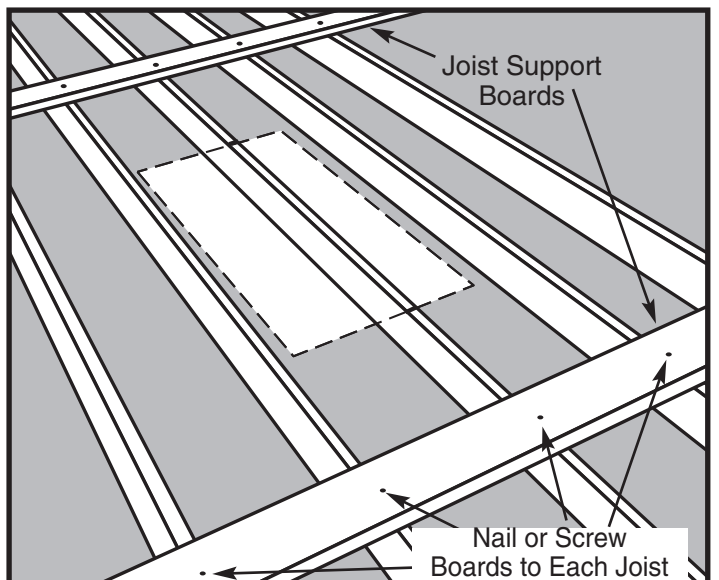

Figure 9
Step 2. Cut (2) joist-sized boards long enough to span (2) joists on each side of your chosen location (See Figure 9). These boards will support the joists that will be cut and help keep the ceiling from sagging or completely collapsing while you are working in the overhead space.
Step 3. Place these boards approximately 0.61 m from the edge of your chosen location and nail (See Figure 9).